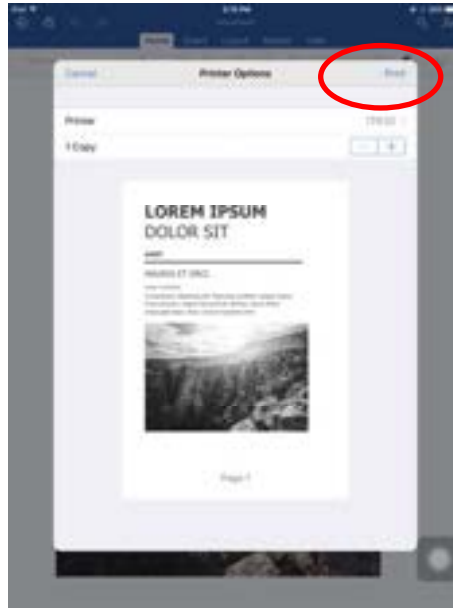

Figure 43
- 2.7 Return to “Printer Options” interface and click “Print”, the system sends print data to the printer, as shown in Figure 43.